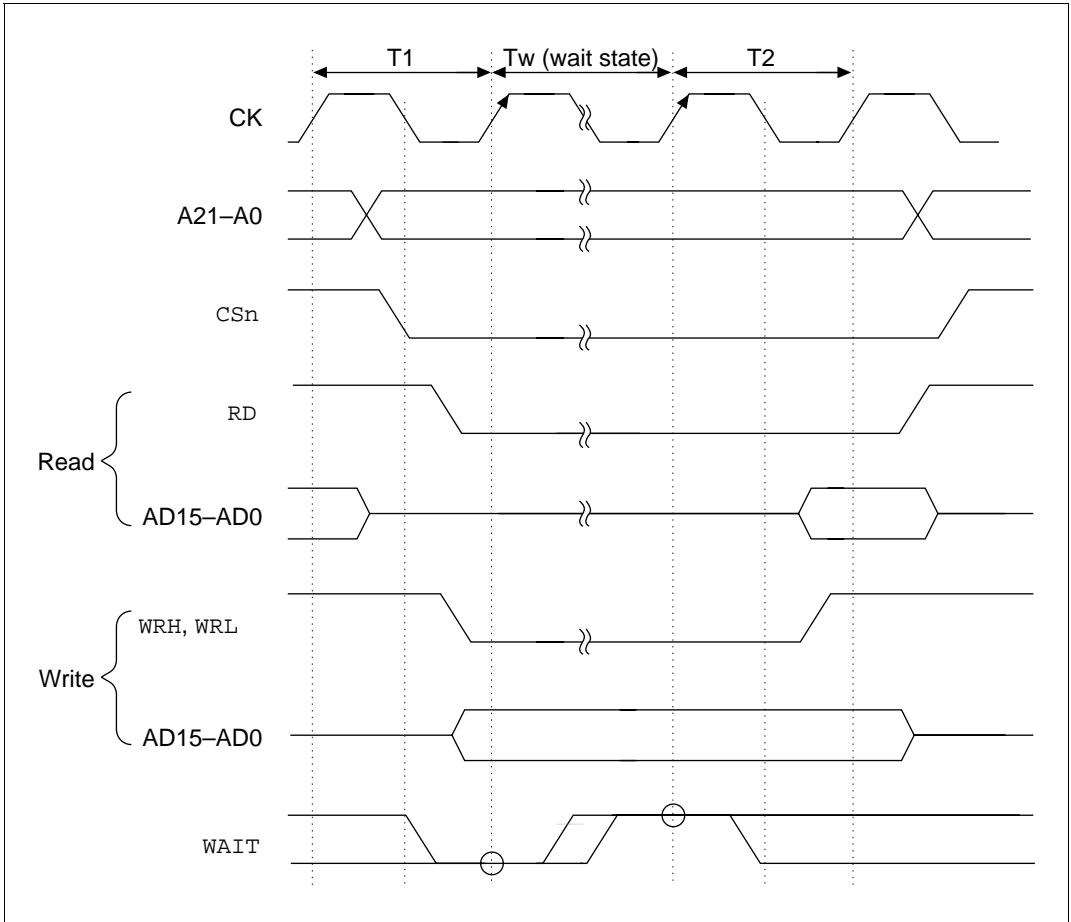
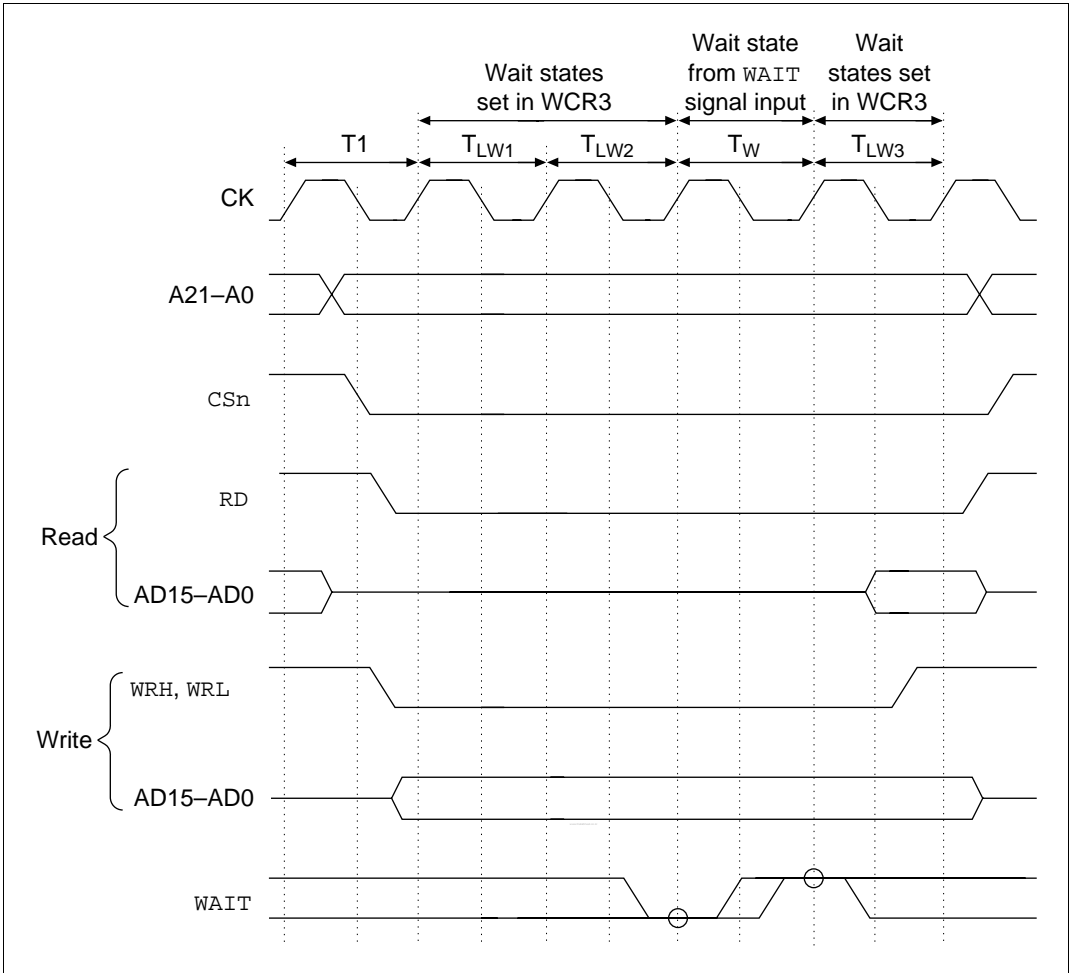

Figure 8.13 Wait State Timing for External Memory Space Access (2 states plus wait states from $\overline{\text{WAIT}}$ signal)
Figure 8.14 Wait State Timing for External Memory Space Access (1 state plus long wait state (when set to insert 3 states) plus wait states from WAIT signal)
For the CPU read cycle, DMAC dual mode read cycle and DMAC single mode read/write cycle, the access cycle is completed in 1 state when the corresponding bits of WCR1 and WCR2 for areas 1, 3–5, and 7 are cleared to 0 and the $\overline{\text{WAIT}}$ pin input signal is not sampled. When the bits are set to 1, the $\overline{\text{WAIT}}$ signal is sampled and the number of states is 2 plus the number of wait states in the $\overline{\text{WAIT}}$ signal. The $\overline{\text{WAIT}}$ signal is sampled at the rise of the system clock (CK) directly preceding the second state of the bus cycle and the wait states are inserted as long as the level is low. When a high level is detected, it shifts to the second state (final state). Figure 8.13 shows the wait state timing when accessing the external memory spaces of areas 1, 3, 4, 5, and 7.
Areas 0, 2 and 6 have long wait functions. When the corresponding bits in WCR1 and WCR2 are cleared to 0, the access cycle is 1 state plus the number of long wait states (set in WCR3, selectable between 1 and 4) and the $\overline{\text{WAIT}}$ pin input signal is not sampled. When the bits are set to 1, the $\overline{\text{WAIT}}$ signal is sampled and the number of states is 1 plus the number of long wait states plus the number of wait states in the $\overline{\text{WAIT}}$ signal. The $\overline{\text{WAIT}}$ signal is sampled at the rise of the system clock (CK) directly preceding the last long wait state and the wait states are inserted as long as the level is low. When a high level is detected, it shifts to the final long wait state. Figure 8.14 shows the wait state timing when accessing the external memory spaces of areas 0, 2, and 6.
For CPU write cycles and DMAC dual mode write cycles to external memory space, the number of states and wait state insertion cannot be controlled by WCR1. In areas 1, 3, 4, 5, and 7, the $\overline{\text{WAIT}}$ signal is sampled and the number of states is 2 plus the number of wait states in the $\overline{\text{WAIT}}$ signal (figure 8.13). In areas 0, 2 and 6, the number of states is 1 state plus the number of long wait states plus the number of wait states in the $\overline{\text{WAIT}}$ signal (figure 8.14). Never write 0 in bits 7–2 and 0 of WCR1; only write 1. When area 1 is being used as external memory space, never write 0 to bit 1 (WW1); always write 1.